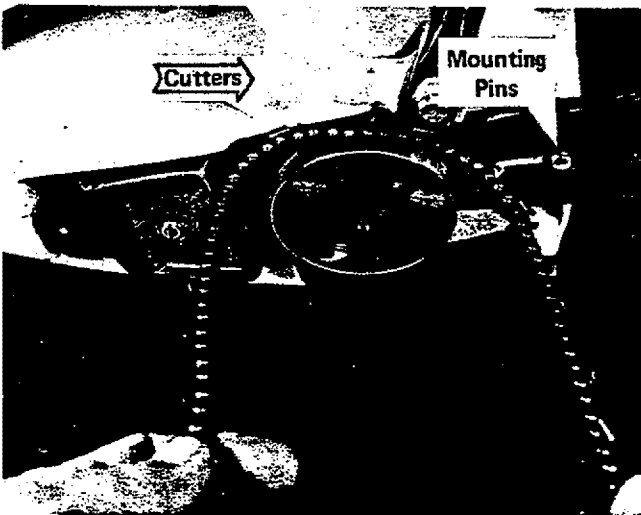

Fig. 2
2. Mount the slotted end of the bar over the mounting pins and slide bar to the rear. Figure 2.
3. Hold about 8" of chain between your hands, with sharp edge of cutters facing your right hand. Form an arc with the chain and place it (cutters first) over the top of clutch drum. Once the chain is over the clutch drum, turn the chain so the drive link tangs engage the sprocket teeth. Figure 2. On Model 358-350870 (Craftsman 2.1 PS) and model 358-350880 (Craftsman 2.3 PS/VL) engage chain drive links in groove of rim sprocket teeth. Chain travels in direction arrow indicates in Figure 2.